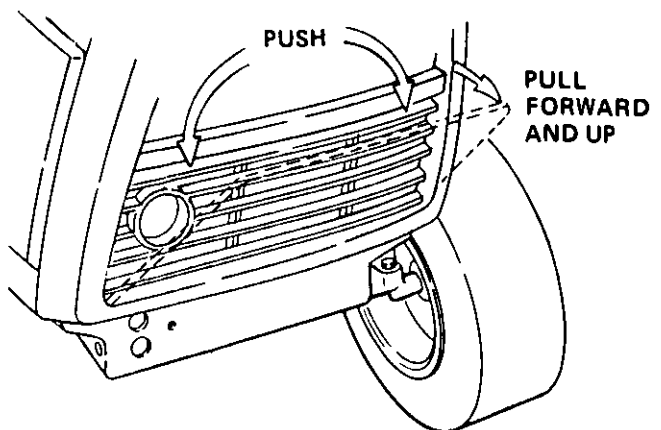

Figure 16
- Remove the grille insert by pushing down on the top of the grille insert and pulling forward as shown in Figure 16. Lift the grille insert up removing the tabs from the bottom of the grille housing.